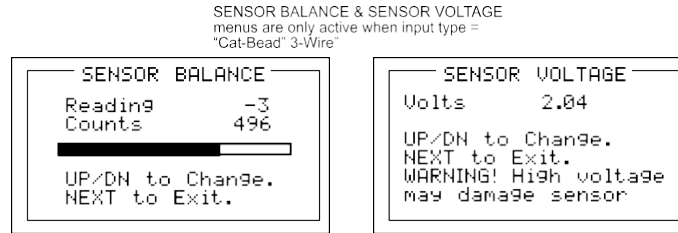

Figure 6-3: Catalytic Bead BALANCE & SENSOR VOLTS Adjust Menus
**Set Balance** allows balancing of the catalytic bead sensor and must only be performed with ZERO gas on the sensor (Figure 6-3). Balance is similar to a very coarse ZERO calibration and does not need to be precise since subsequent calibrations will correct for small errors. ZERO gas applied to the sensor should provide a Reading of -3 to +3 on the SENSOR BALANCE menu.